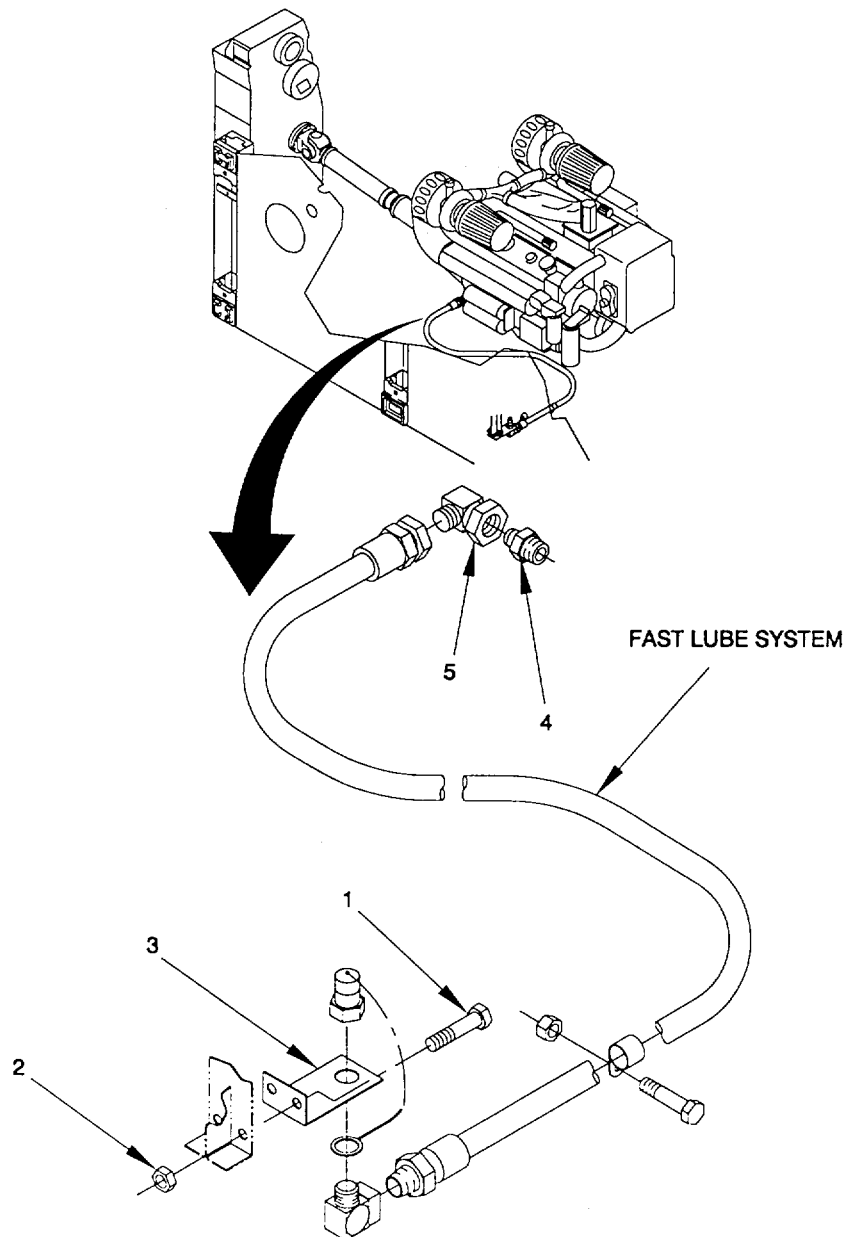

Figure 2-14. Fast Lube System Remove/Install.
- a. Remove. (figure 2-14)
- (1) Remove two hex head capscrews (1) and two hex head nuts (2) from bracket (3).
- (2) Remove 90° swivel fitting (4) from straight fitting (5), and straight fitting (5) from oil pan of fast lube system.
(9) Attach half coupling (1) to the 90° adaptor (3).
(10) Put dust cap (2) on half coupling (1).
d. *Install.* (figure 2-14)
(1) Install 90° swivel fitting (5) and straight fitting (4) to fast lube system and align bracket (3) with mounting holes.
(2) Secure fast lube to mounting using two hex head nuts (2) and two hex head capscrews (1).